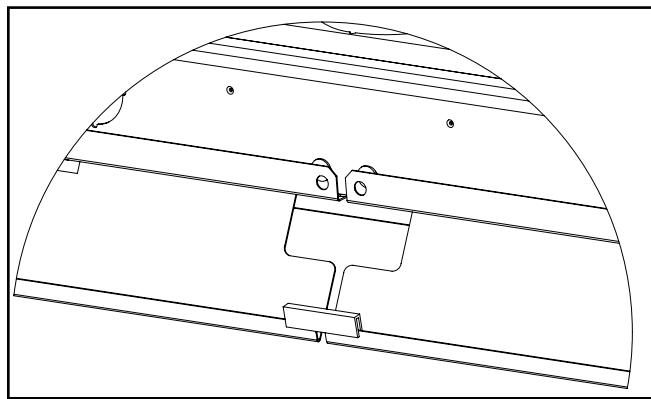

Figure 6.
5. When applicable, align reflectors of adjoining fixtures using row aligners as shown (Figure 6).